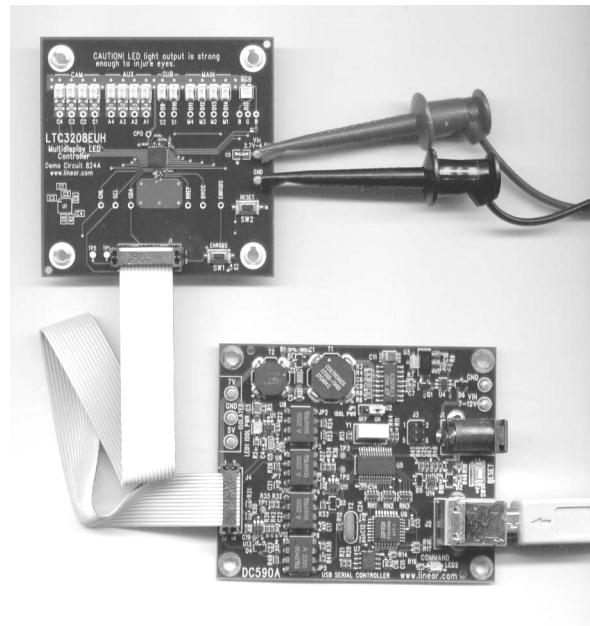
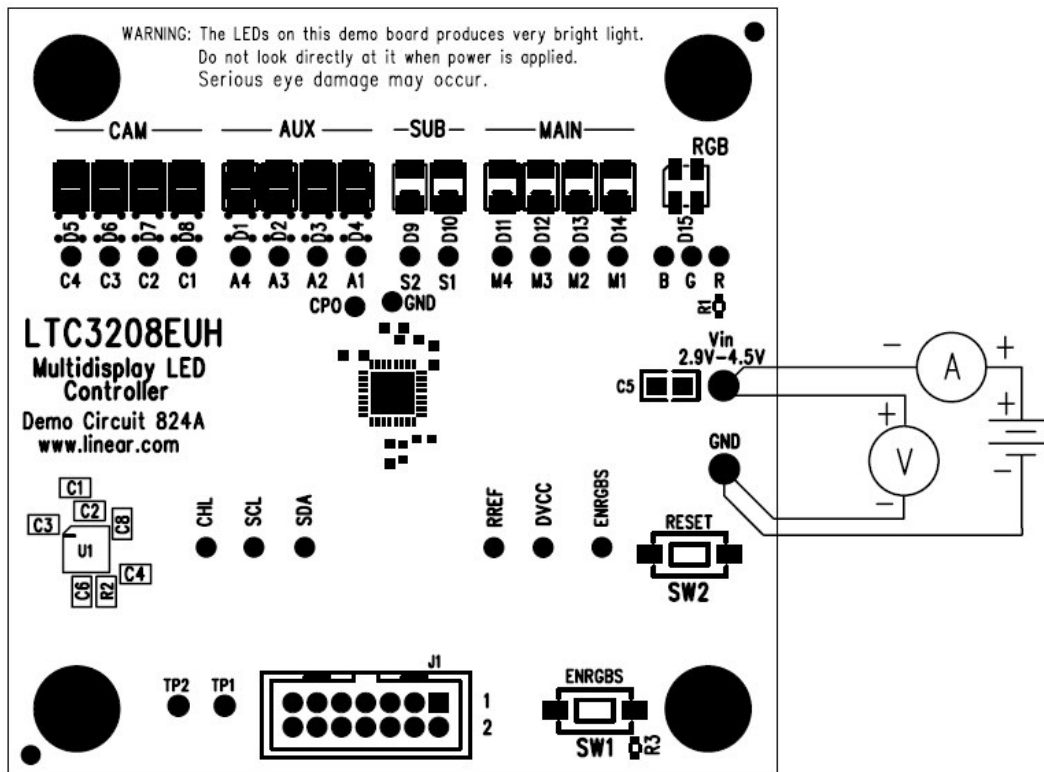

Figure 1. Proper Serial Interface Connection
Figure 2. Proper Measurement and Equipment Setup
Demonstration circuit 824 is easy to setup to evaluate the performance of the LTC3208. Refer to Figure 1 and Figure 2 for proper measurement equipment setup and follow the procedure below.
3. Connect DC824 to the DC590 USB Serial Controller using the supplied 14-conductor ribbon cable as shown in Figure 1.
4. Attach a 2.9 – 4.5V power source to the Vin and GND turrets of the DC824 demo circuit as shown in Figure 2. This is the Vin power supply for the LTC3208 (see application schematic). DC824 has an extra 4.7uF de-coupling capacitor on Vin to help accommodate long lead lengths. DC590 gets its power from the USB cable.